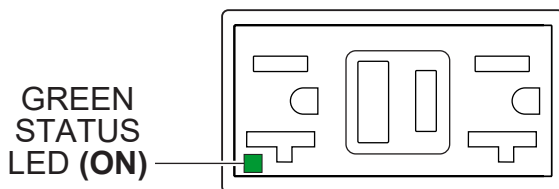

Figure 75. GFCI Receptacle (ON)
3. Verify that the **status LED** on the corresponding **GFCI receptacle** (Figure 75) is **ON (GREEN)**.